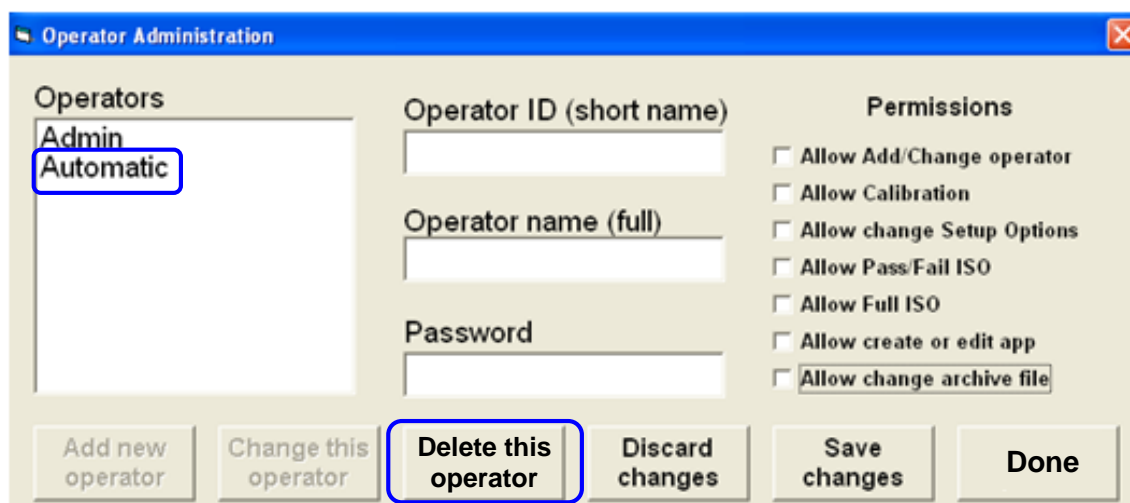

Figure 37: Click “Delete this operator”
3. Select “Automatic” from the “Operators” list (Figure 37).